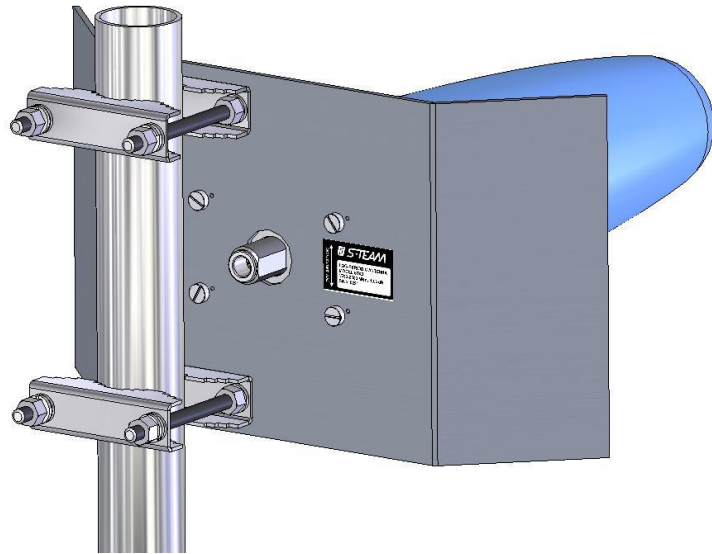

Figure 4
3. Insert the brackets, washers, helical lock washers, and M6 hex nuts (Figure 4). Tighten the nuts lightly by hand. Rotate the antenna to the desired direction. Tighten the nuts firmly with a wrench (torque 40 Nm).